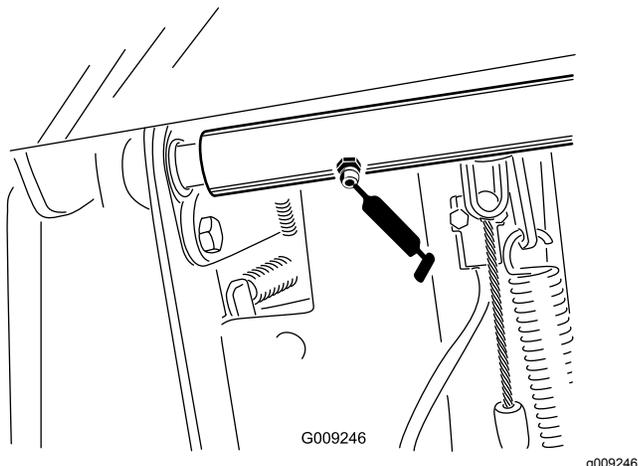

Figure 58
- 2 brake pedal pivot-shaft bearings (Figure 58)